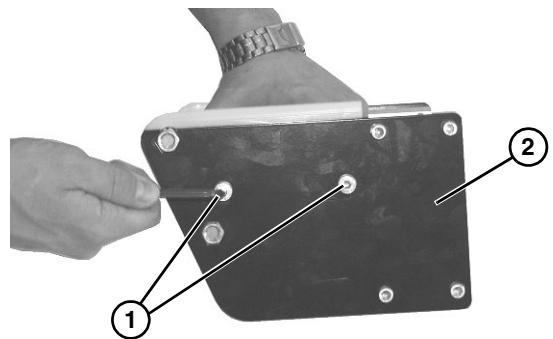

Figure 57
4. Remove two low head cap screws (**Figure 57, item 1**) from plate (**Figure 57, item 2**). Repeat procedure on opposite side.